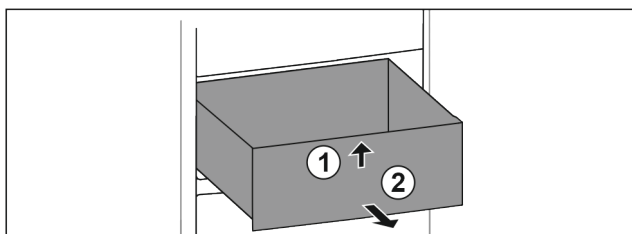

Fig. 57
- Lift up drawer at the front. Fig. 57 (1)
- Remove drawer to the front. Fig. 57 (2)